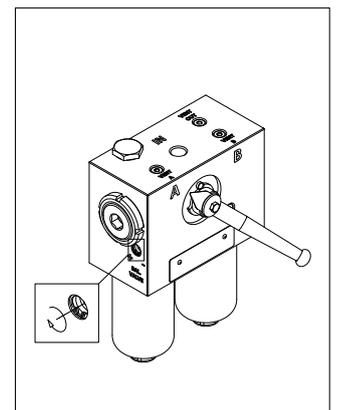

fig. 17
- (Fig. 17) Close the balancing valve by screwing it towards the "+" sign